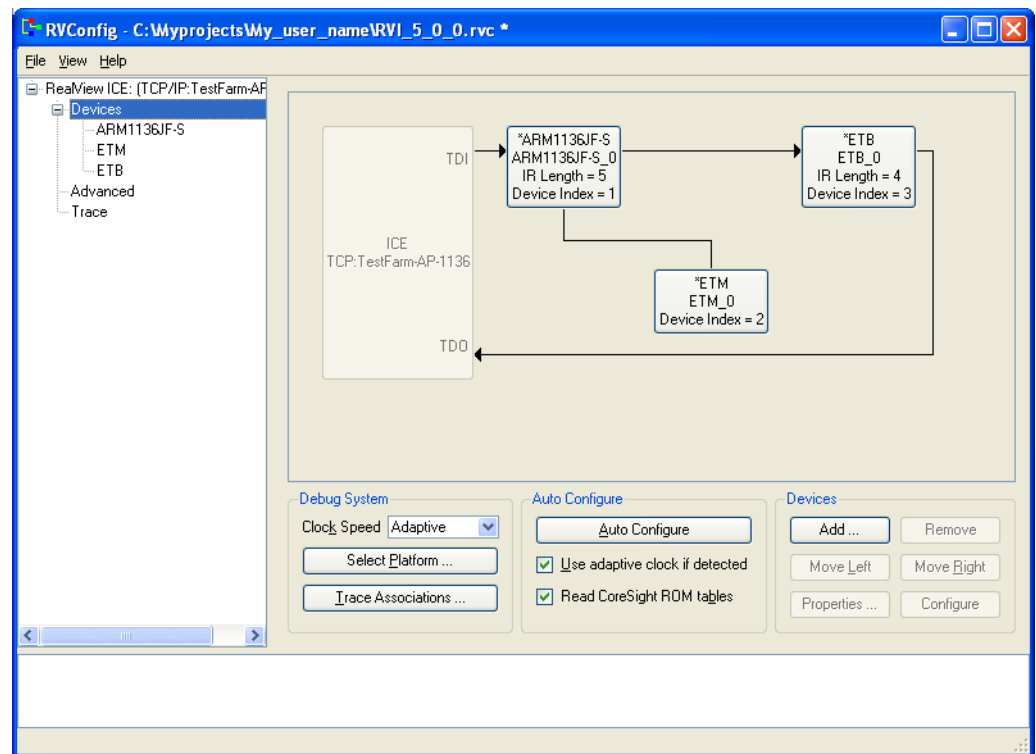

Figure B-1 RVConfig utility
6. Select **Configure...** from the context menu to open the RVConfig utility. Figure B-1 shows an example: